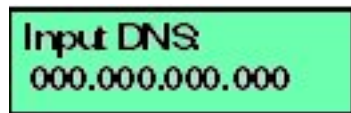

Figure 3.13. LCD Panel (Input DNS)
6. Use the arrow keys as described in step 2 to input a new gateway IP address, then press **ENTER**. The following message displays (Figure 3-13) with the default DNS server IP address of 0.0.0.0.